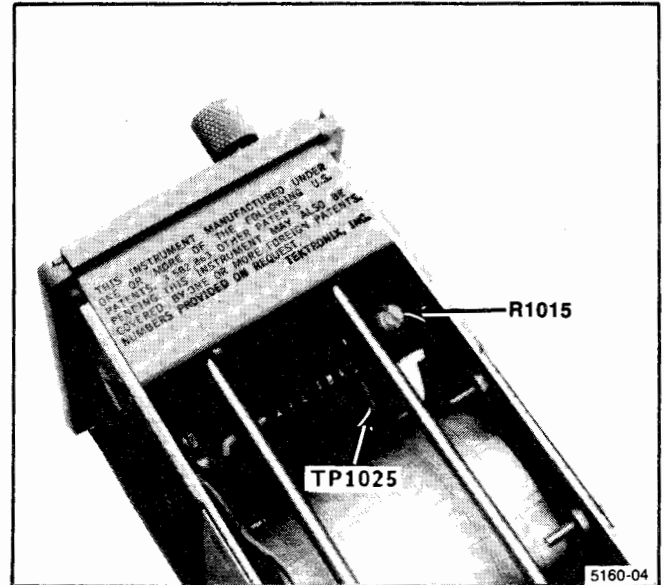

Fig. 4-4. Motor Speed Control.
- b. Attach a voltmeter probe to P1025 on the Motor Speed Control board (see Figure 4-4).
- b. Attach a voltmeter probe to PI025 on the Motor Speed control board (see Figure 4-4).